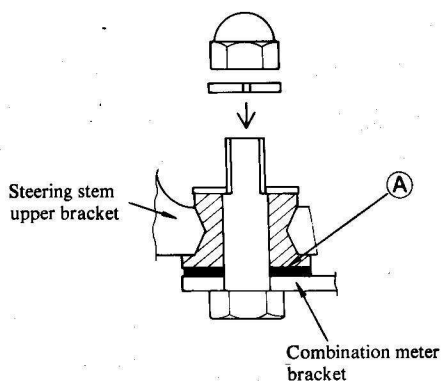

Fig. 20.
- Install the combination meter in the steering stem upper bracket as shown in Fig. 20.